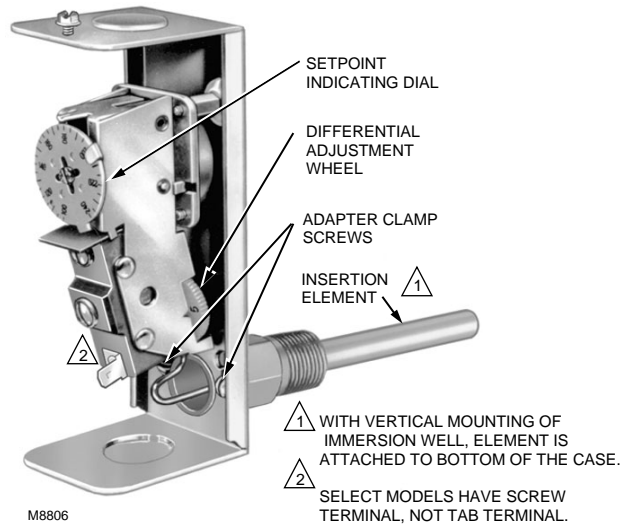

Fig. 6. Internal view of L6006A.
1. Loosen the screw (at the top of the case, above the scale setting), and remove the cover. Loosen the two screws that secure the adapter clamp (Fig. 6).